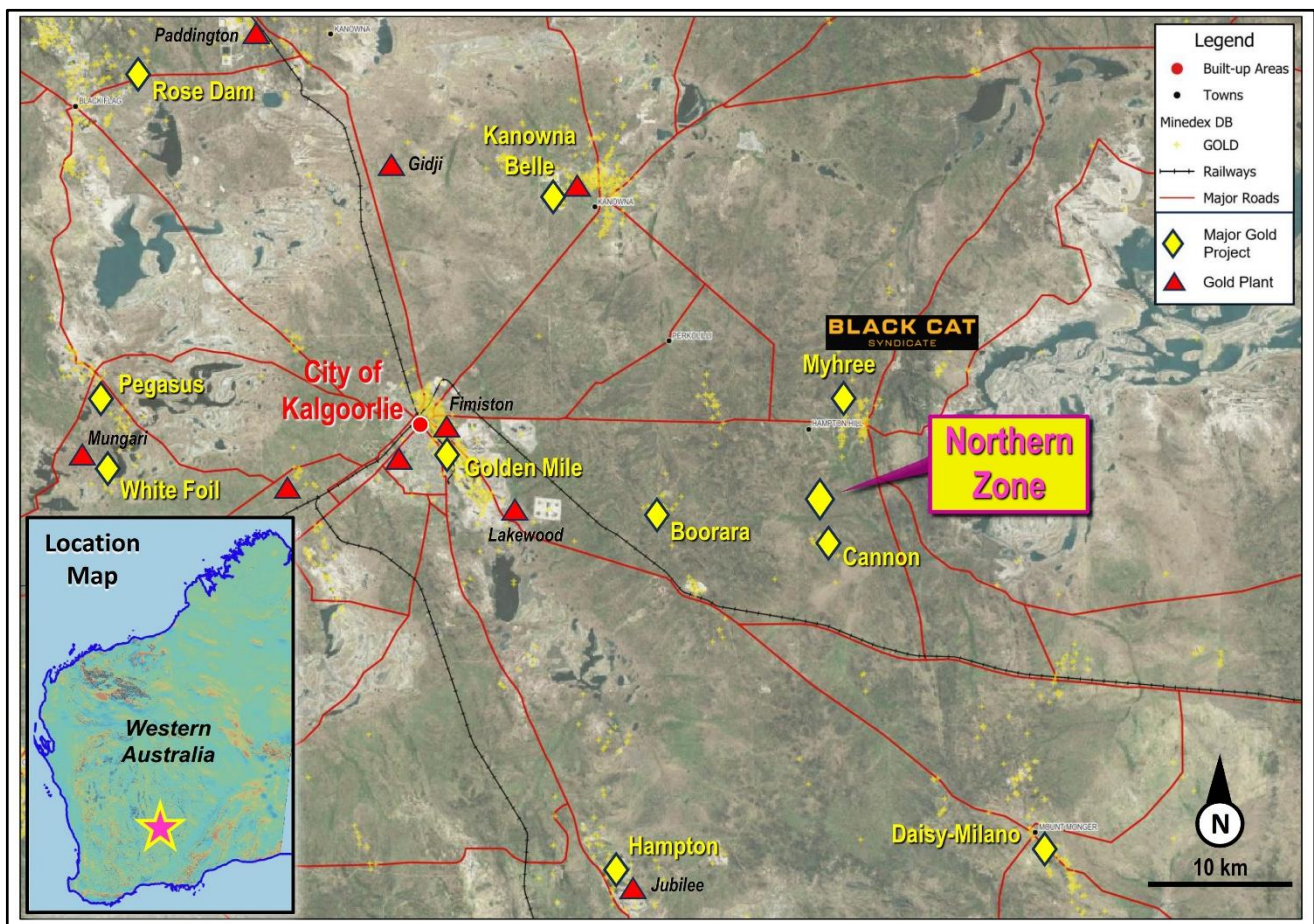

Figure 1: Northern Zone Project Map showing proximity to the Kalgoorlie "Super Pit".
Riversgold Limited (ASX: RGL, Riversgold or the Company) is pleased to announce that it has received further assay results from five (5) reverse circulation (RC) drill holes of an 11 hole 1,289m program recently completed at the Northern Zone Intrusive Hosted Gold Project, located 25 km east of Kalgoorlie in Western Australia (refer to **Figure 1** for location). A further 1,303 samples from a 1,805m vertical drill program have been submitted to the assay laboratory and are expected over the coming weeks. This totals 36 drill holes for 1,756 samples in at the assay laboratory.